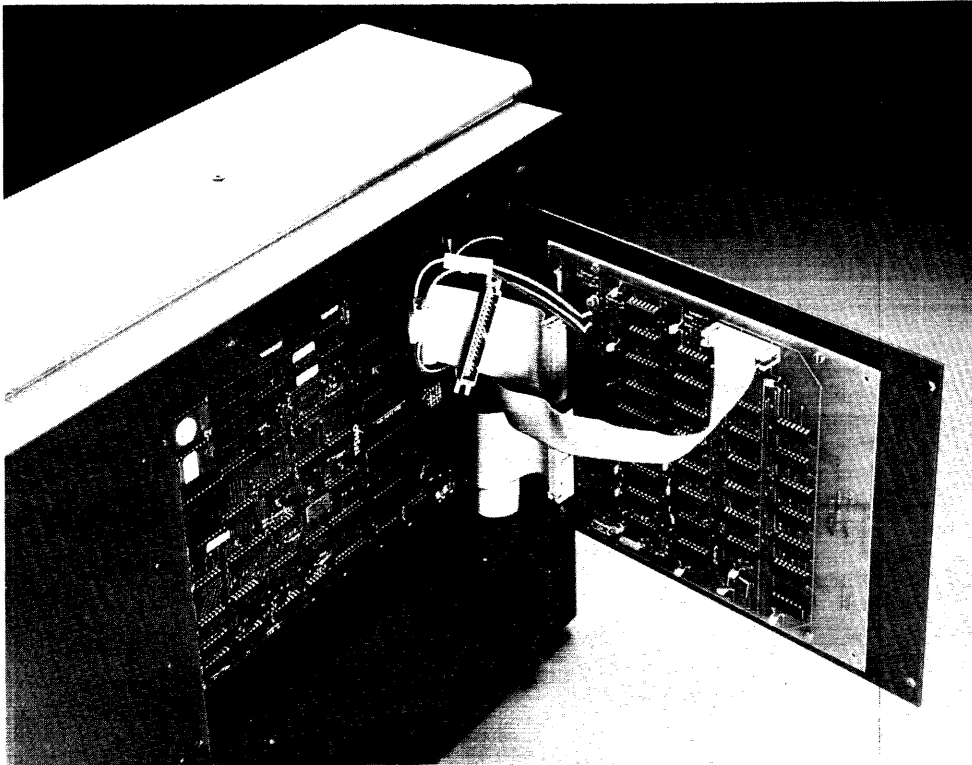

Figure 8. Bottom Service Door
1. Turn the drive on it's side and remove the two allen head screws securing the trap door on the under side of the drive. Open the trap door (see Figure 8).